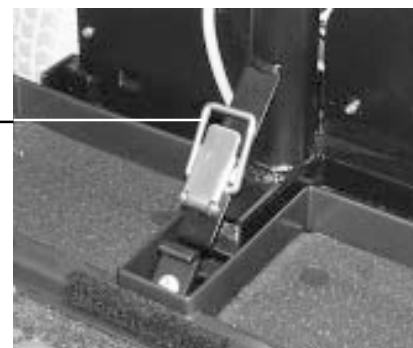

Figure 15. Toggle Latch (Unlatched)
2. Position the toggle latch buckle over the top of the toggle latch. See figure 15.